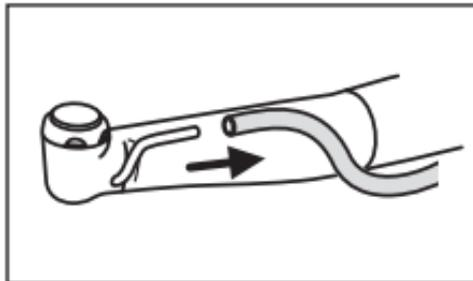

Fig. 11
- 5) Remove the irrigation tube (Fig. 11).